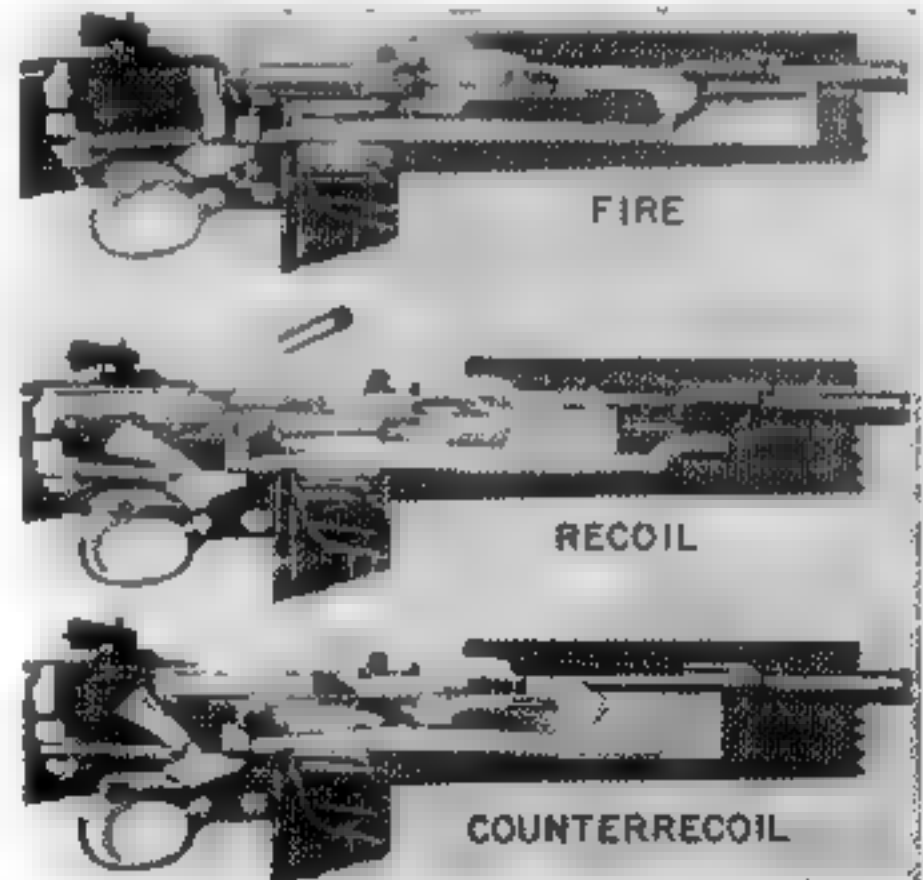

Figure 39. Functioning of operating parts (semi-automatic setting).
a. The action as the operating slide moves forward is the same as on the semi-automatic setting (Page 28) and (Fig. 39), up to the time the camming surface on the operating slide contacts the toe of the disconnecter lever. At this point, the operating slide cams down the toe of the disconnecter lever. This raises the rear end of the disconnecter lever, which is in contact with the disconnecter. The forward end of the disconnecter is cammed upward. The disconnecter rotates about the hammer pin, and the projecting leg on the rear of the disconnecter moves downward. With the trigger still held back, the projecting lug of the disconnecter presses against the raised shoulder of the sear and the sear nose is disengaged from the hammer. The hammer spring then rotates the hammer forward, and the carbine fires. This happens every time the operating slide moves forward if pressure is maintained on the trigger (see next column).